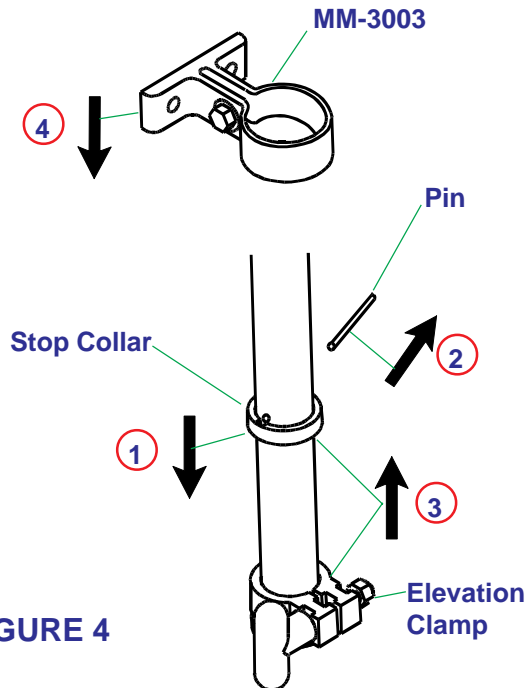

FIGURE 4
STEP 4. Disassemble pipe per number sequence shown in Figure 4 so that you can **slide both MM-3003 brackets onto the pipe.**